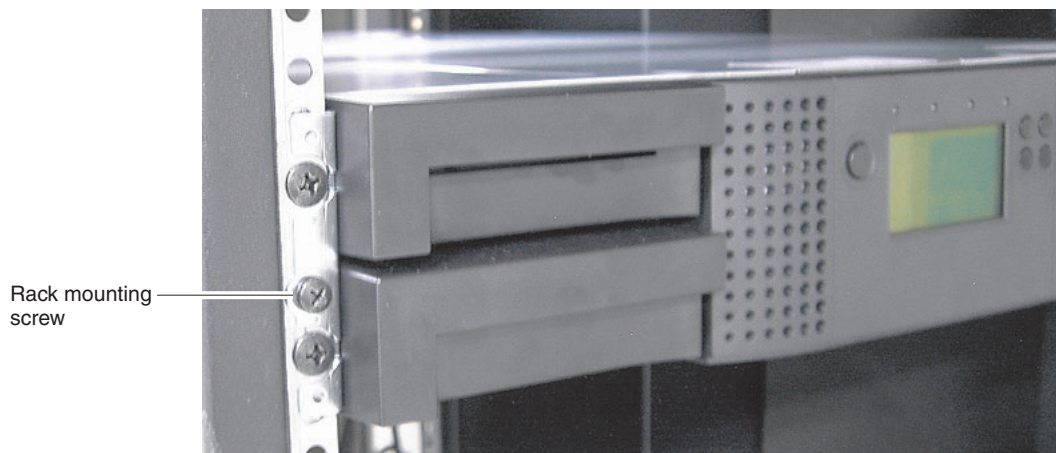

Figure 5. Securing the autoloader to the rack
9. Secure the autoloader to the rack as shown in Figure 5.